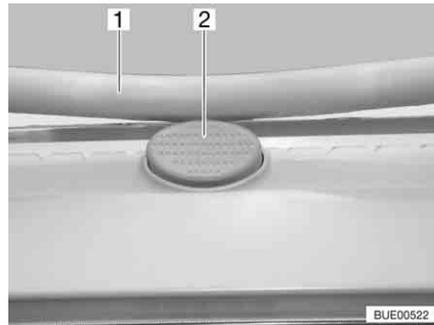

Fig. 111 Safety knob on the Heki skylight
- Press the safety knob (Fig. 111,2) and pull the bar (Fig. 111,1) down with both hands.
- Push the bar upwards with both hands until it is above the safety knob (Fig. 111,2).